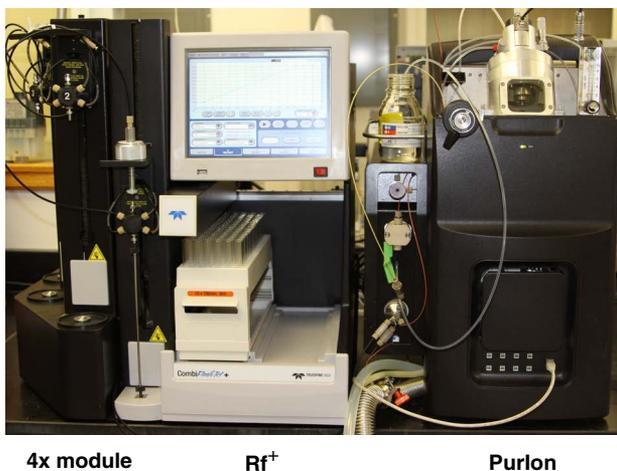

Figure 4-2 Component arrangement for connection with Rf system, 4x module and PurIon
1. Place the PurIon next to the Rf system, opposite the 4x module. See Figure 4-2. The Rf⁺ system is used as an example only.